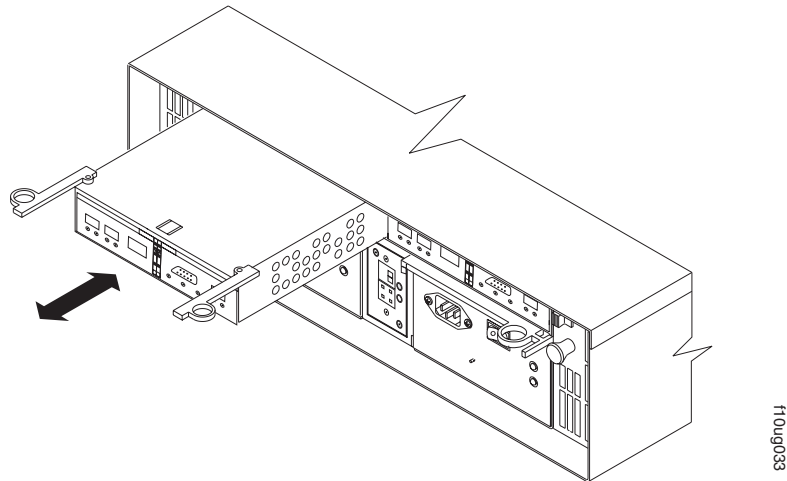

Figure 77. Installing a new RAID controller
20. Install the RAID controller, as shown in Figure 77.